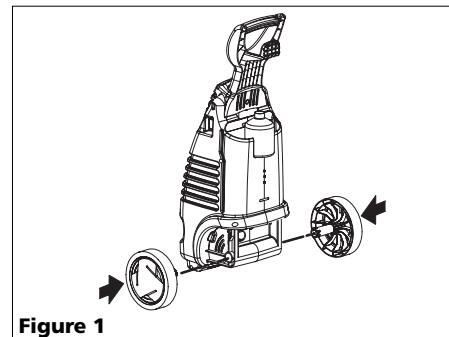

Figure 1
1. Assemble wheels by pushing wheels into mounting holes, as shown in Figure 1.